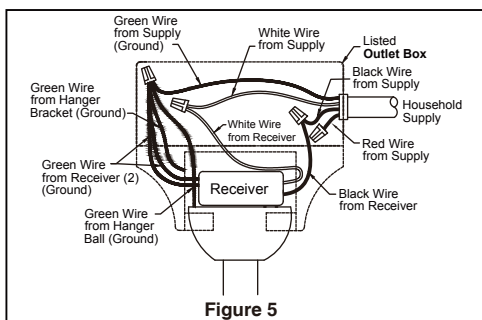

Figure 5
5. Route wires through motor coupling cover, canopy screw cover and ceiling canopy. (Figure 5)
4. After connections have been made, put the white and green leads to one side and the black leads towards the other side, the connection should be turned upward and carefully push leads into the outlet box. The wires should be spread apart with the grounded conductor and the equipment-grounding conductor on one side of the outlet box and the ungrounded conductor on the other side. (Figure 5)
- ☐ 5. Secure the glass to light kit by twisting in a clockwise direction. Twist the glass gradually **until it snaps onto the light kit**. Do not over-tighten. (Figure 5)
- ☐ 5. To set the remote code same positions as the receiver with a small screwdriver or ball point pen (neither included), slide dip switches firmly up or down. (Figure 5)